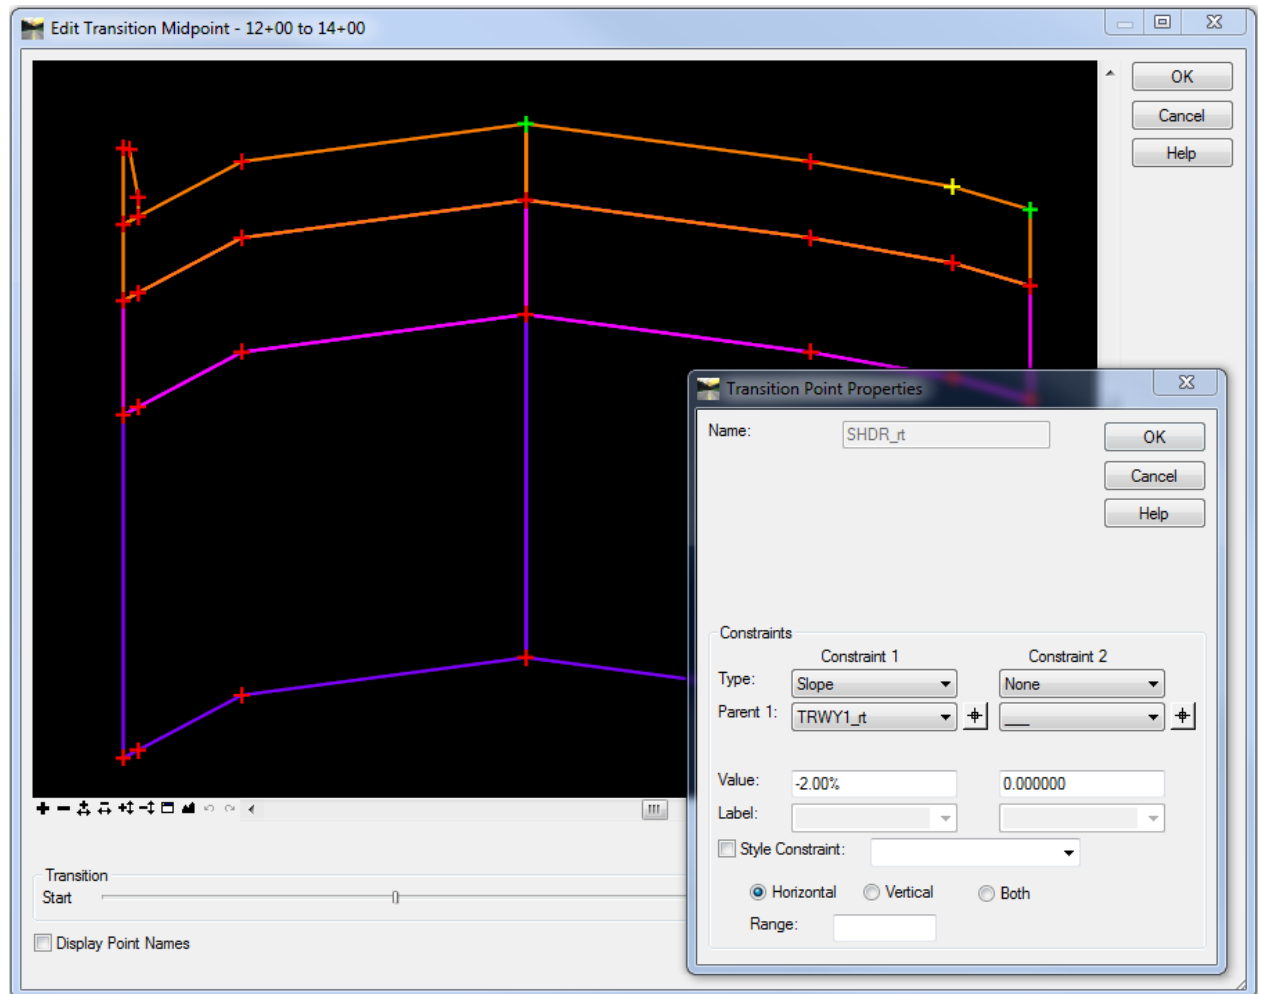

Figure 7-4 InRoads Edit Transition Midpoint Dialog Box
- D. Next click the **OK** button, the **Edit Transition Midpoint** dialog will appear. Double click on the **SHDR_rt** point and change the horizontal constraint to **None**. Select the **OK** button on the **Transition Point Properties** dialog box and **OK** on the **Edit Transition Midpoint** dialog box as shown in Figure 7-4. The yellow highlight should turn blue indicating that edits have been made.